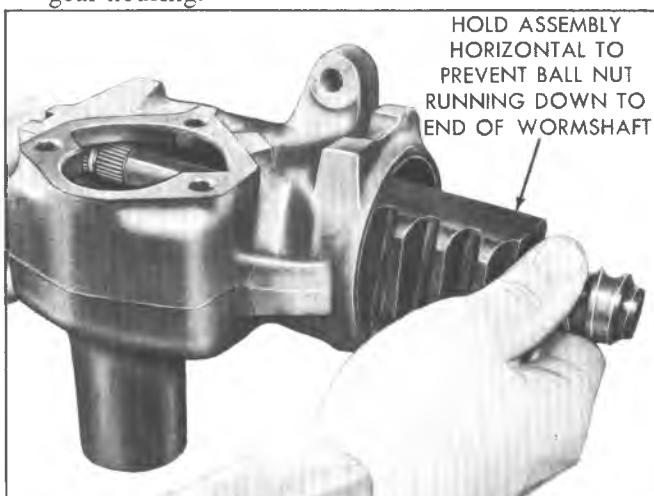

Fig. 6--Removing the Wormshaft and Ball Nut-Typical
6. Draw the wormshaft and ball nut assembly from the housing (fig. 6).